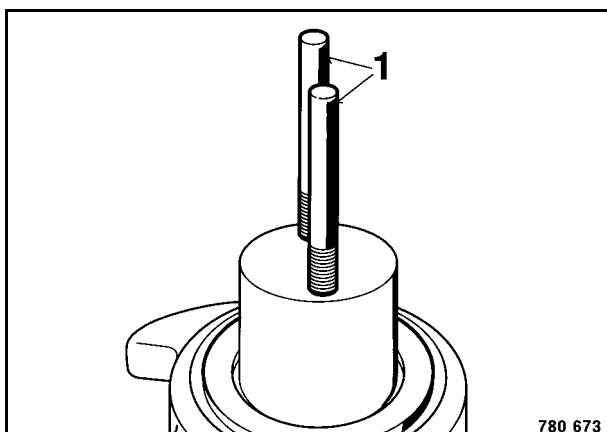

Fig. 9
- Insert two threaded bars 1 (Fig. 9) M16 x 200 into the oscillating axle.